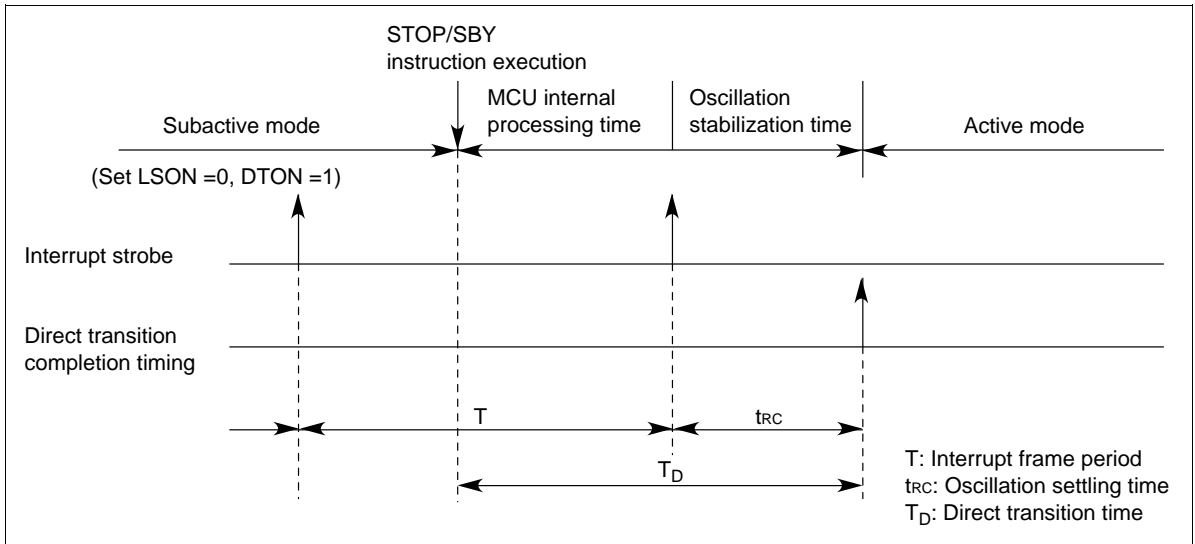

Figure 16 Direct Transition Timing
- After the lapse of the MCU internal processing time and the oscillation settling time, the MCU automatically switches from subactive mode to active mode (figure 16).